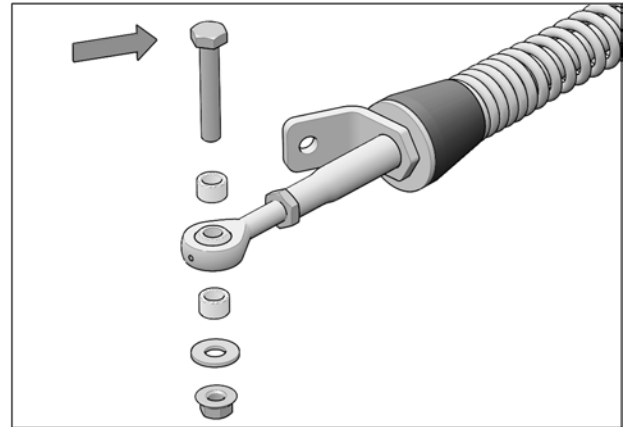

Fig. 11
3. Remove bolts, nuts, washers and bushings from front stabilizing rod ends as shown in Fig. 11